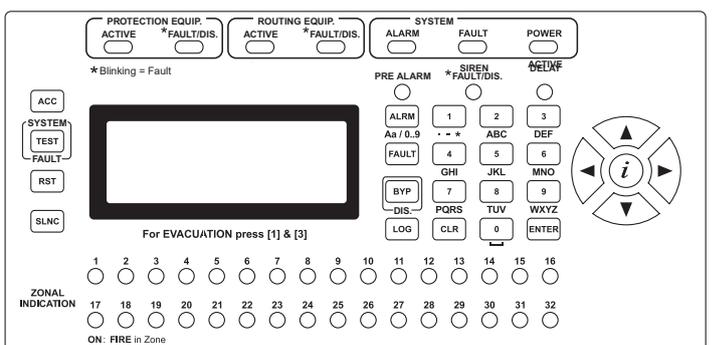

Figure 9. Mikro keypad
Each keypad (Figure 9) has several buttons with some having different functions depending on the system's state.
- **T9 entry mode:** Each key has a set of characters (4 or 5) that are selected by promptly pressing the same key as many times needed. The characters allocated to each key are printed below them on the keypad mask (Figure 9). This mode is very popular with cellular phones and used for SMS text messaging.